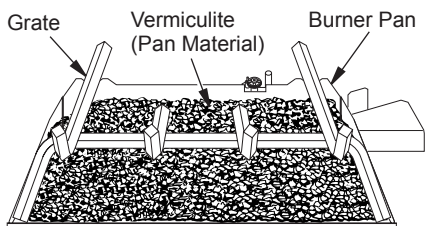

Figure 19 - Fill Entire Burner Pan with Vermiculite (P325/VP325 Models Shown)
1. Open the bag(s) of vermiculite and fill the entire burner pan until the burner tube is completely covered (see Figure 19, page 15).